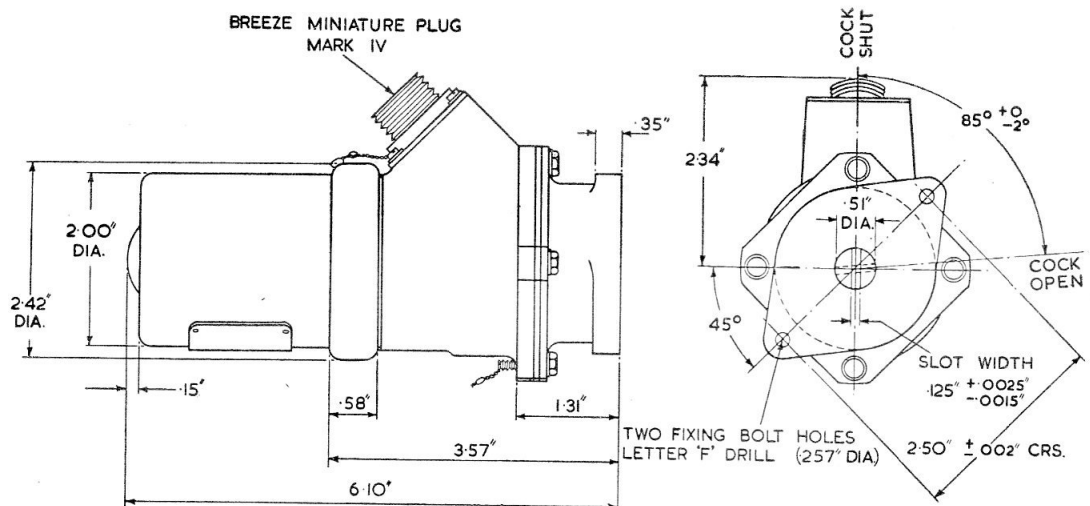

Fig. 1. Installation drawing
3. The limit switches are adjusted during manufacture to provide 85 deg. angular travel of the coupling shaft. All necessary information concerning the movement of the coupling shaft relative to the mounting flange is given in the installation drawing (fig. 1). A functional test should be performed by connecting the actuator to a 28-volt d.c. supply and applying loads of 0, 30 and 60 lb./in. The maximum current consumption and the time the coupling takes to complete its 85 deg. angular travel should not exceed the values given in the following table :—